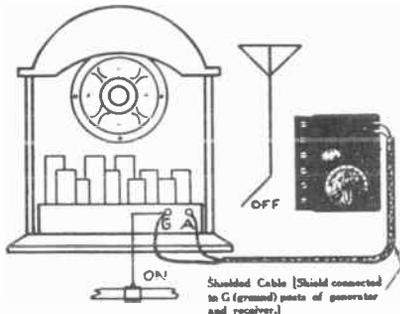

FIG. 1. How to Connect Signal Generator.
*Connecting the Signal Generator.*—There is only one way in which to connect a signal generator for this tube test. The lead from the signal generator's ground binding post must go to the ground post of the receiver, and the lead from the signal generator's antenna post must go to the antenna post of the receiver. Before making the test, be sure that the regular aerial lead to the receiver has been disconnected. The ground wire may be left attached. The proper connections are shown in Fig. 1.